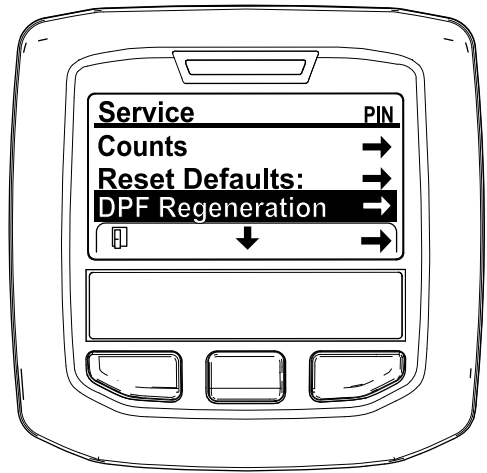

Figure 34
3. In the SERVICE MENU, press the middle button until the DPF REGENERATION options displays, and press the right button to select the DPF REGENERATION option (Figure 34).